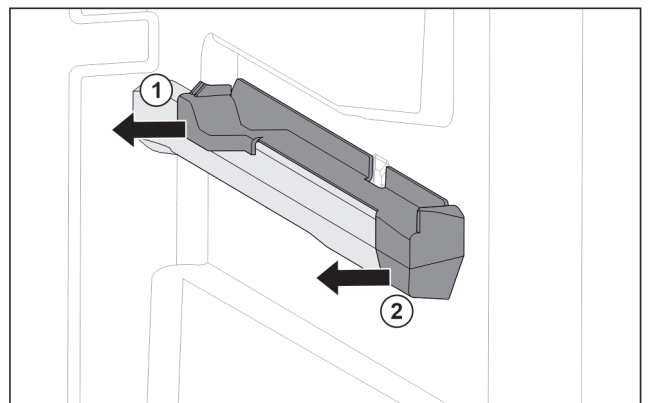

Fig. 17 Attachment on the right moulded rib
- ▶ Pull off attachment at the back sideways. Fig. 17 (1)
- ▶ Pull off attachment at the front sideways. Fig. 17 (2)